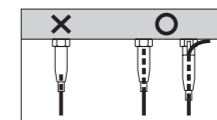

Fig.2
- Make sure to insert wire into the gripper completely before using it. (Fig.2)